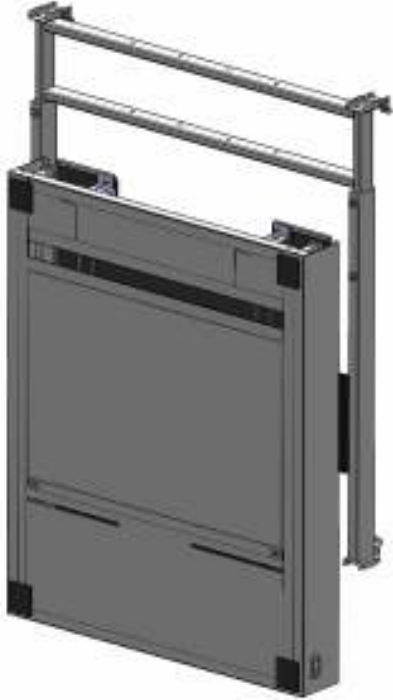

Figure 10.1
- 1) Stick the four Foam Pads to all corners (see figure 10.1).